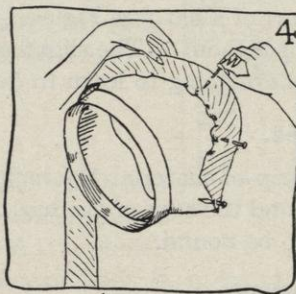

FIG. 4.
- b. Stretch the bias around the brim letting the raw edge come just to the edge of the brim, and put in a pin about every 3 inches (see Figure 4). Be sure the wrong side of the material is up.